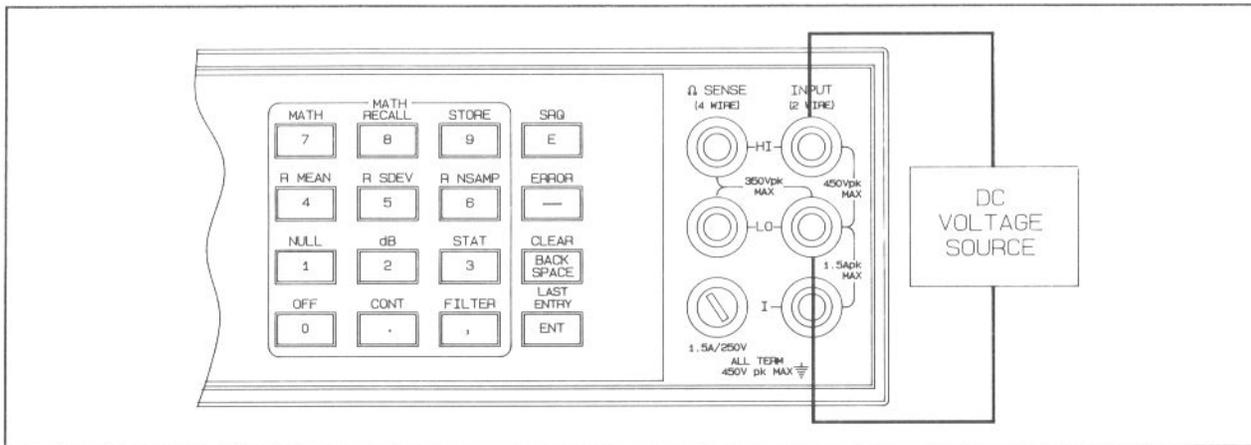

Figure 4-1. DCV Performance Test Connections
1. Set the output of the DC Voltage Standard to 30 mV and connect it to the HP 3457A front panel HI and LO Input Terminals. See Figure 4-1.